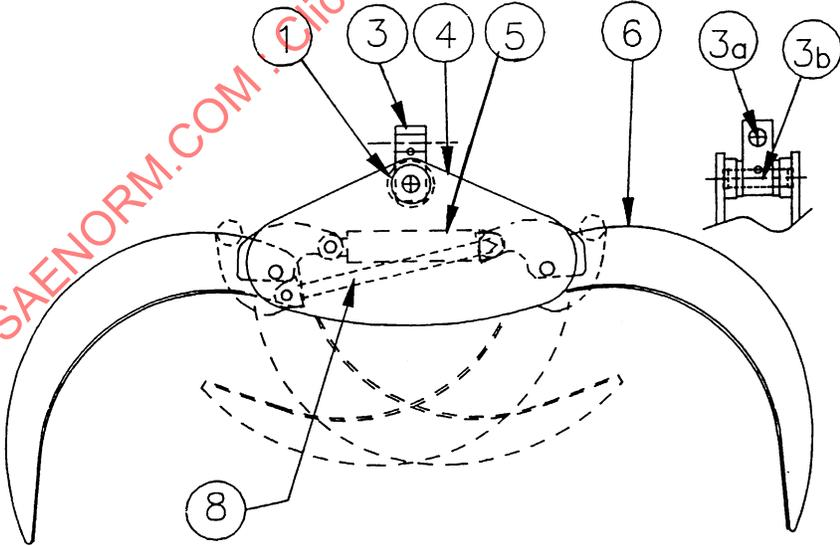

FIGURE 2—SINGLE CYLINDER CRADLE GRAPPLE
3.1.2 SINGLE CYLINDER CRADLE (FIGURE 2)—Grapple arms are operated by a grapple arm cylinder and timing link which are enclosed.